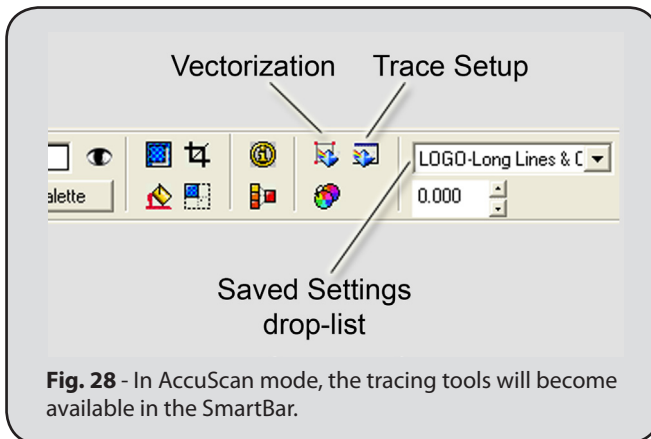

Fig. 28 - In AccuScan mode, the tracing tools will become available in the SmartBar.
3. At the far-right of the SmartBar, the controls for **Vectorization**, **Trace Setup**, and **Saved Settings** are available (Fig. 28).